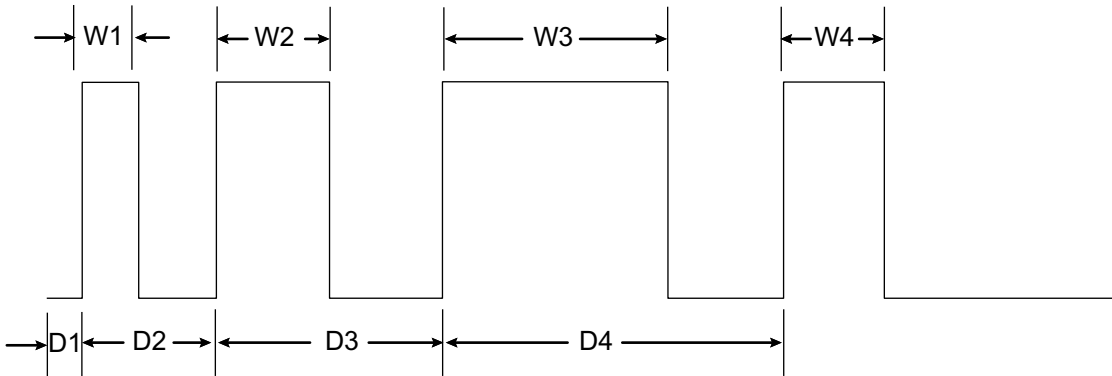

Figure 3-6. Pulse Delay Error Corrected
3. Change W1 to 50  $\mu$ s. The error indicator should disappear because there is now a gap in time between the trailing edge of the first pulse and the leading edge of the second pulse as illustrated in Figure 3-6.